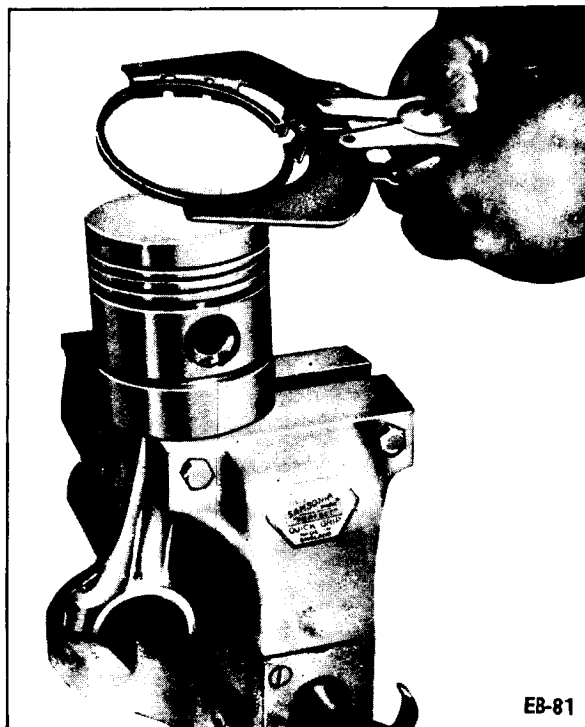

Fig. 2
- (a) Using a piston ring expander (Fig. 2) remove the piston rings in the following order; top compression ring (14-3), second compression ring (13-3), third compression ring (12-3), top oil control ring (11-3) and on diesel engines only the bottom oil control ring (10-3).